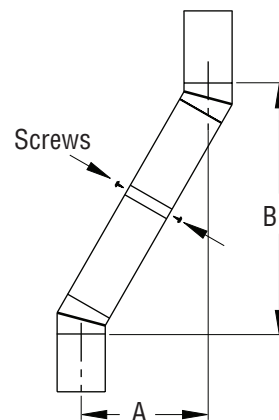

Figure 16 - Elbow Offset
1. To achieve desired offset, you may install combinations of 12", 18", 24", 36" and 48" length of double wall pipe (see Figure 16/offset chart).
4. All pipe connections between offset and return must be secured with two screws on outer pipe only (see Figure 16). Do not penetrate inner stainless.